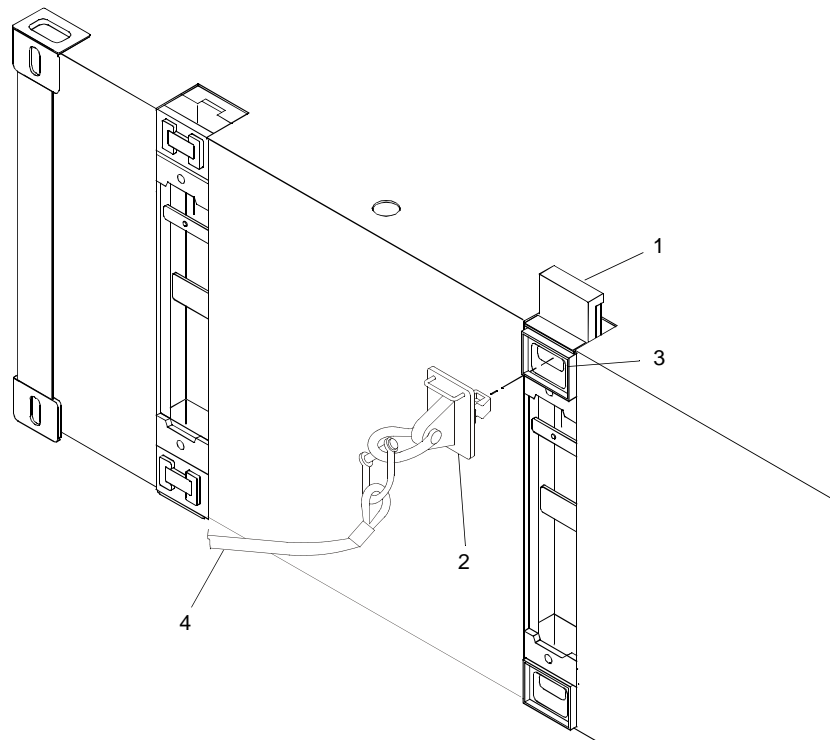

Figure 13. Anchor Cable Attachment
12. Using crowbar, raise female guillotine (figure 13, item 1) securing deadman padeye (figure 13, item 2) in female guillotine upper fitting (figure 13, item 3).
13. Remove deadman padeye (figure 13, item 2) and 300 ft cable (figure 13, item 4) from female guillotine upper fitting (figure 13, item 3) and let fall in water.
14. Using sledgehammer, drive down female guillotine (figure 13, item 1).